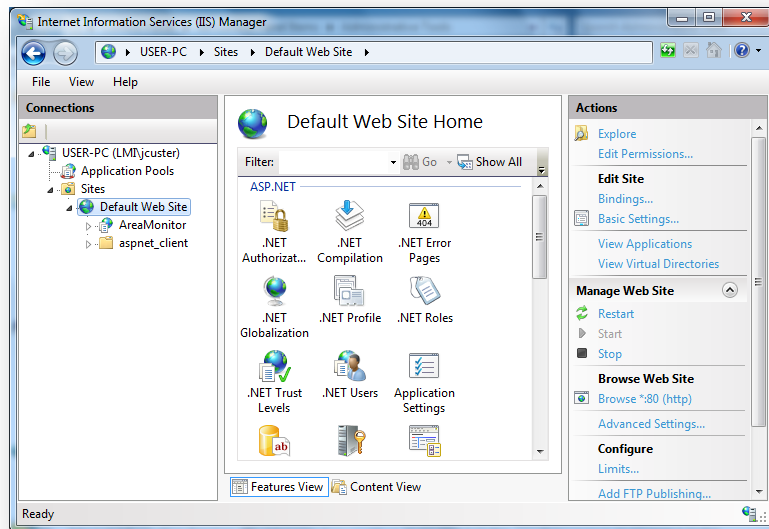

Figure 83 – Internet Information Services (IIS) Manager showing AreaMonitor application
9. Click “Next”. See Figure 83.